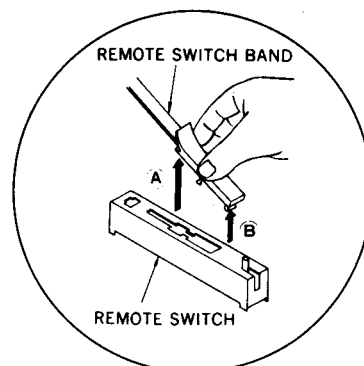

Fig. 4
2. When removing, remove (A) in figure 4 first.
3. When attaching, attach (B) in figure 4 first, and then install (A).